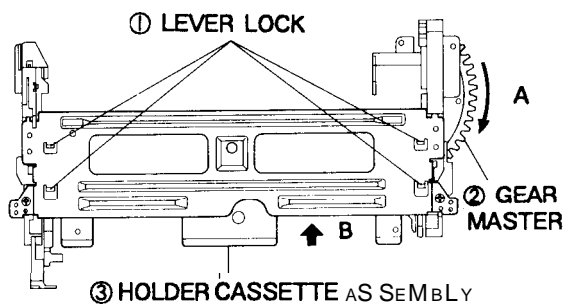

Fig. 66 How to operate the Housing Ass'y
- 1) Push four(4) Lever Locks ① of the housing ass'y Simultaneously. (Refer to Fig. 66)
- 2) Push the holder cassette ass'y @toward arrow "B" while turning the gear master ② toward arrow 'A'.
- (Refer to Fig. 66)
- 3) Load the gear loading L, R ass'y ④, ⑤ to the middle position of guide rail by turning the gear master ② toward arrow "A". (Refer to Fig. 66, 67)